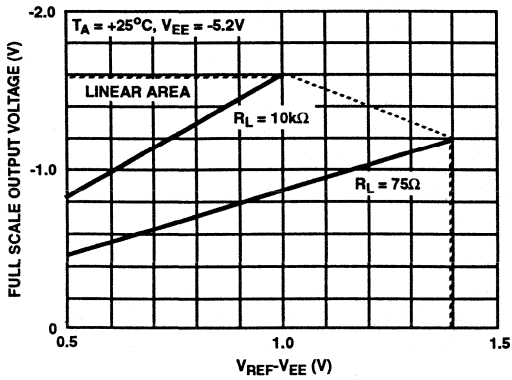

FIGURE 2. $V_{O(FS)}$ RATIO vs $(V_{REF}-V_{EE})$
The Full Scale output voltage is set by the Voltage Reference pin (27). The output voltage performance will vary as shown in Figure 2.